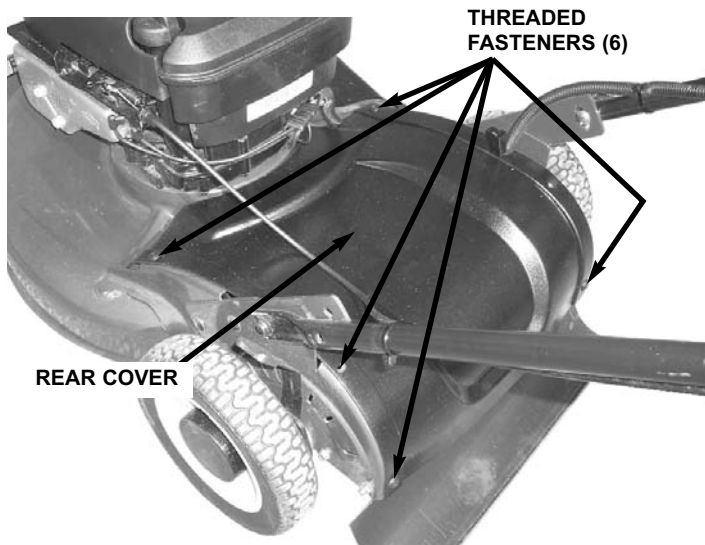

FIGURE 4.11
1. To remove rear cover, remove six threaded fasteners securing rear cover to machine, and lift cover from machine. See Figure 4.11. Set components aside.
2. To install rear cover, place cover onto rear of mower, aligning holes in cover with holes in mower. Secure cover to mower with threaded fasteners. See Figure 4.11.